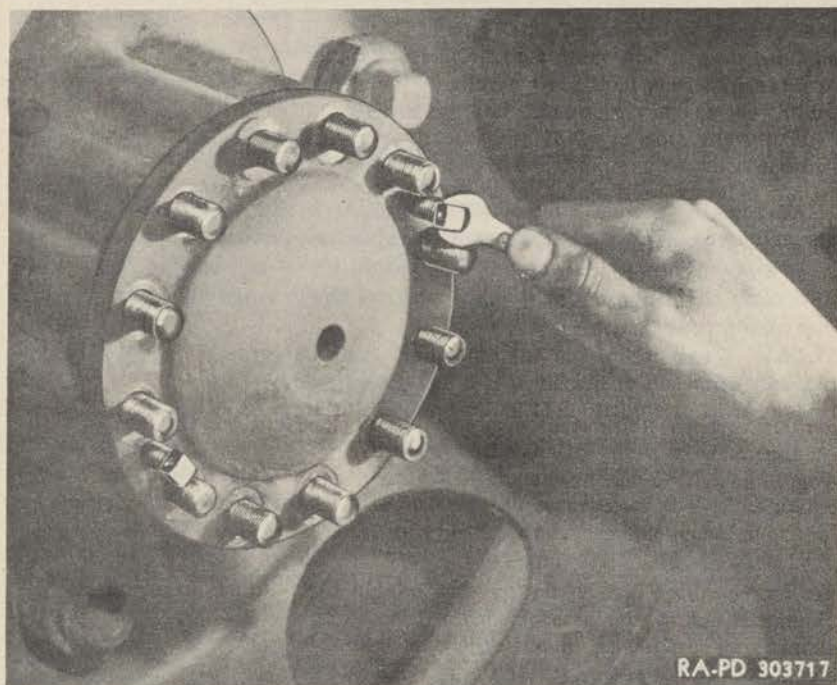

Figure 113—Tightening Rear Axle Flange Puller Screws
b. **Remove Axle Shaft.** Remove the lock wire from the heads of the puller screws, and then tighten the puller screws alternately to pull the shaft off the studs (fig. 113). When the shaft is free, it may be pulled out of the axle housing. As the drive flange of the axle shaft clears the studs, three tapered dowels may be removed from the stud holes. After shaft is removed, remove the flange gasket.